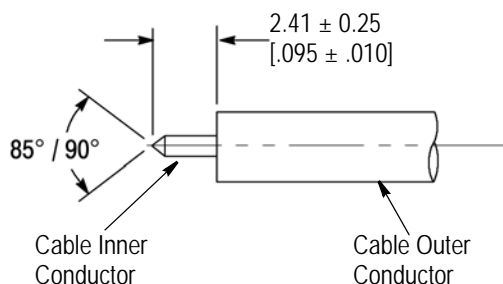

Figure 3
## 2.2. Shaping the Inner Conductor (Figure 3)
1. Trim the inner conductor to the length shown in Figure 3.